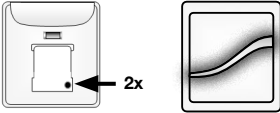

Fig. 3
A. Press and release the program button on the back of the remote twice in rapid succession (2 taps). (Fig. 3.) The LED on the new group remote will flash alternately amber and green to identify inclusion mode.